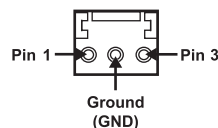

Figure 2.3 LTC Wiring — 3-Pin Terminal Block Connector
- The left and right pins are the two signals while the center pin is the common Ground (GND). Ross Video does not supply this cable. Refer to **Figure 2.3**.